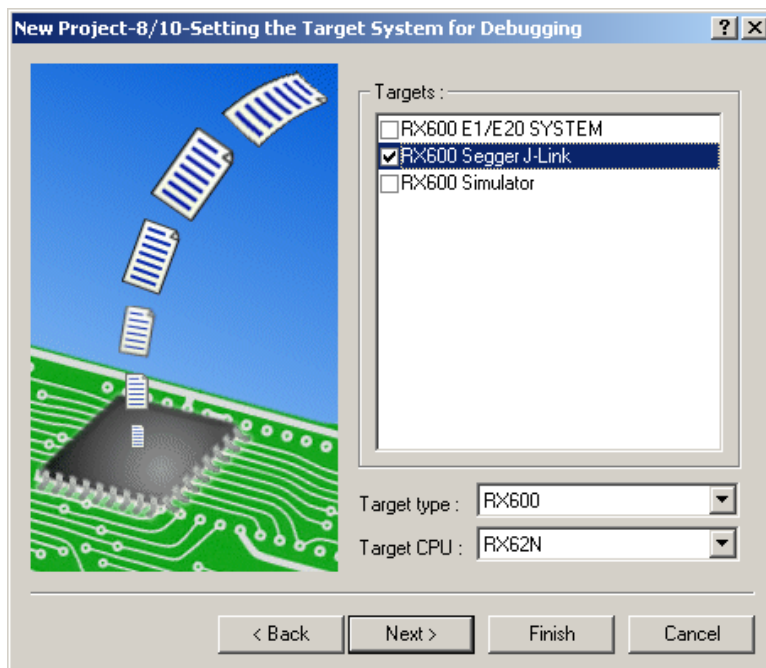

Figure 2-3 : Select Debugger
Step 2.10 Continue to hit “Next” until you get to a window that says “New Project-8/10...” in the title bar and looks like Figure 2-3. Check the box next to “RX600 Segger J-Link” and click “Finish”.